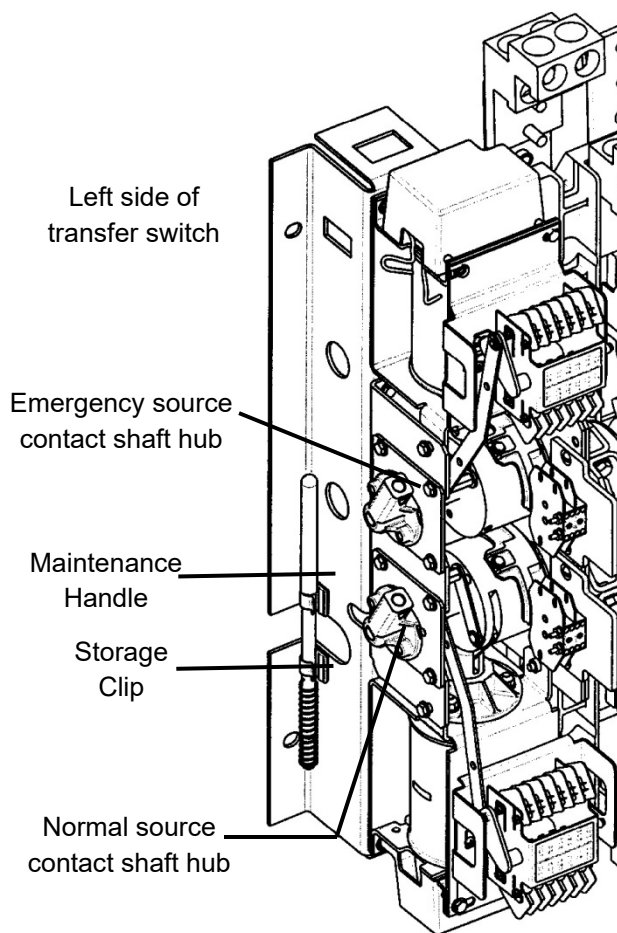

Figure 3 Maintenance handle and its storage clips.
1. After deenergizing both power sources, open the enclosure door. Locate and remove the maintenance handle from the clips on the left side of the transfer switch frame. Insert the handle into the hole in the molded hub on the left side of the operator. See Figures 3, 4, 5 Table B.